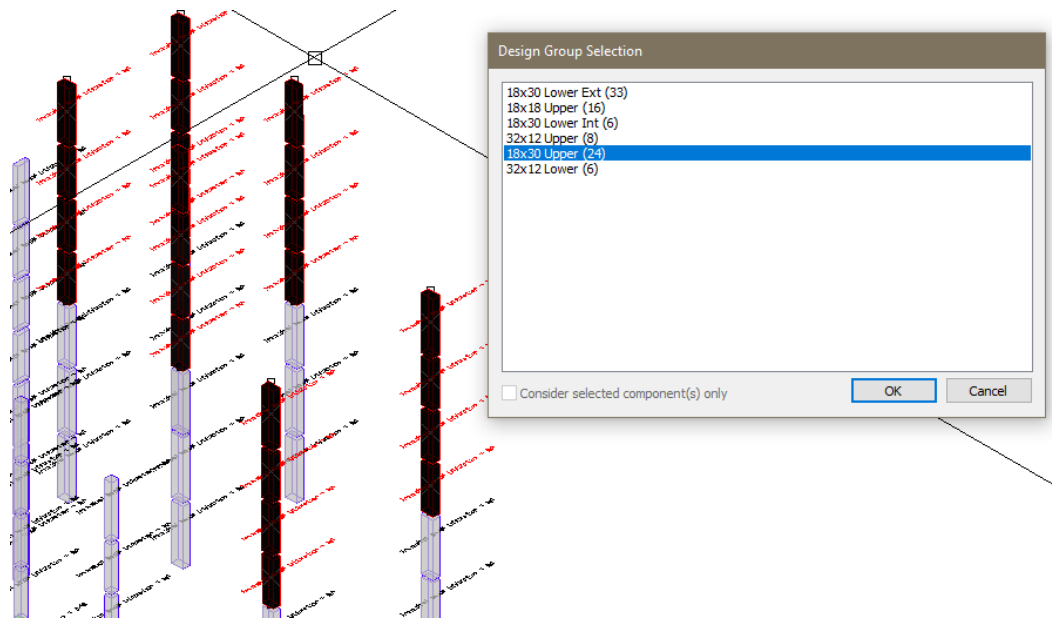

Figure 16-10
- Select the Design Group shown in **FIGURE 16-10** and select OK. This will initiate the design process for this design group.